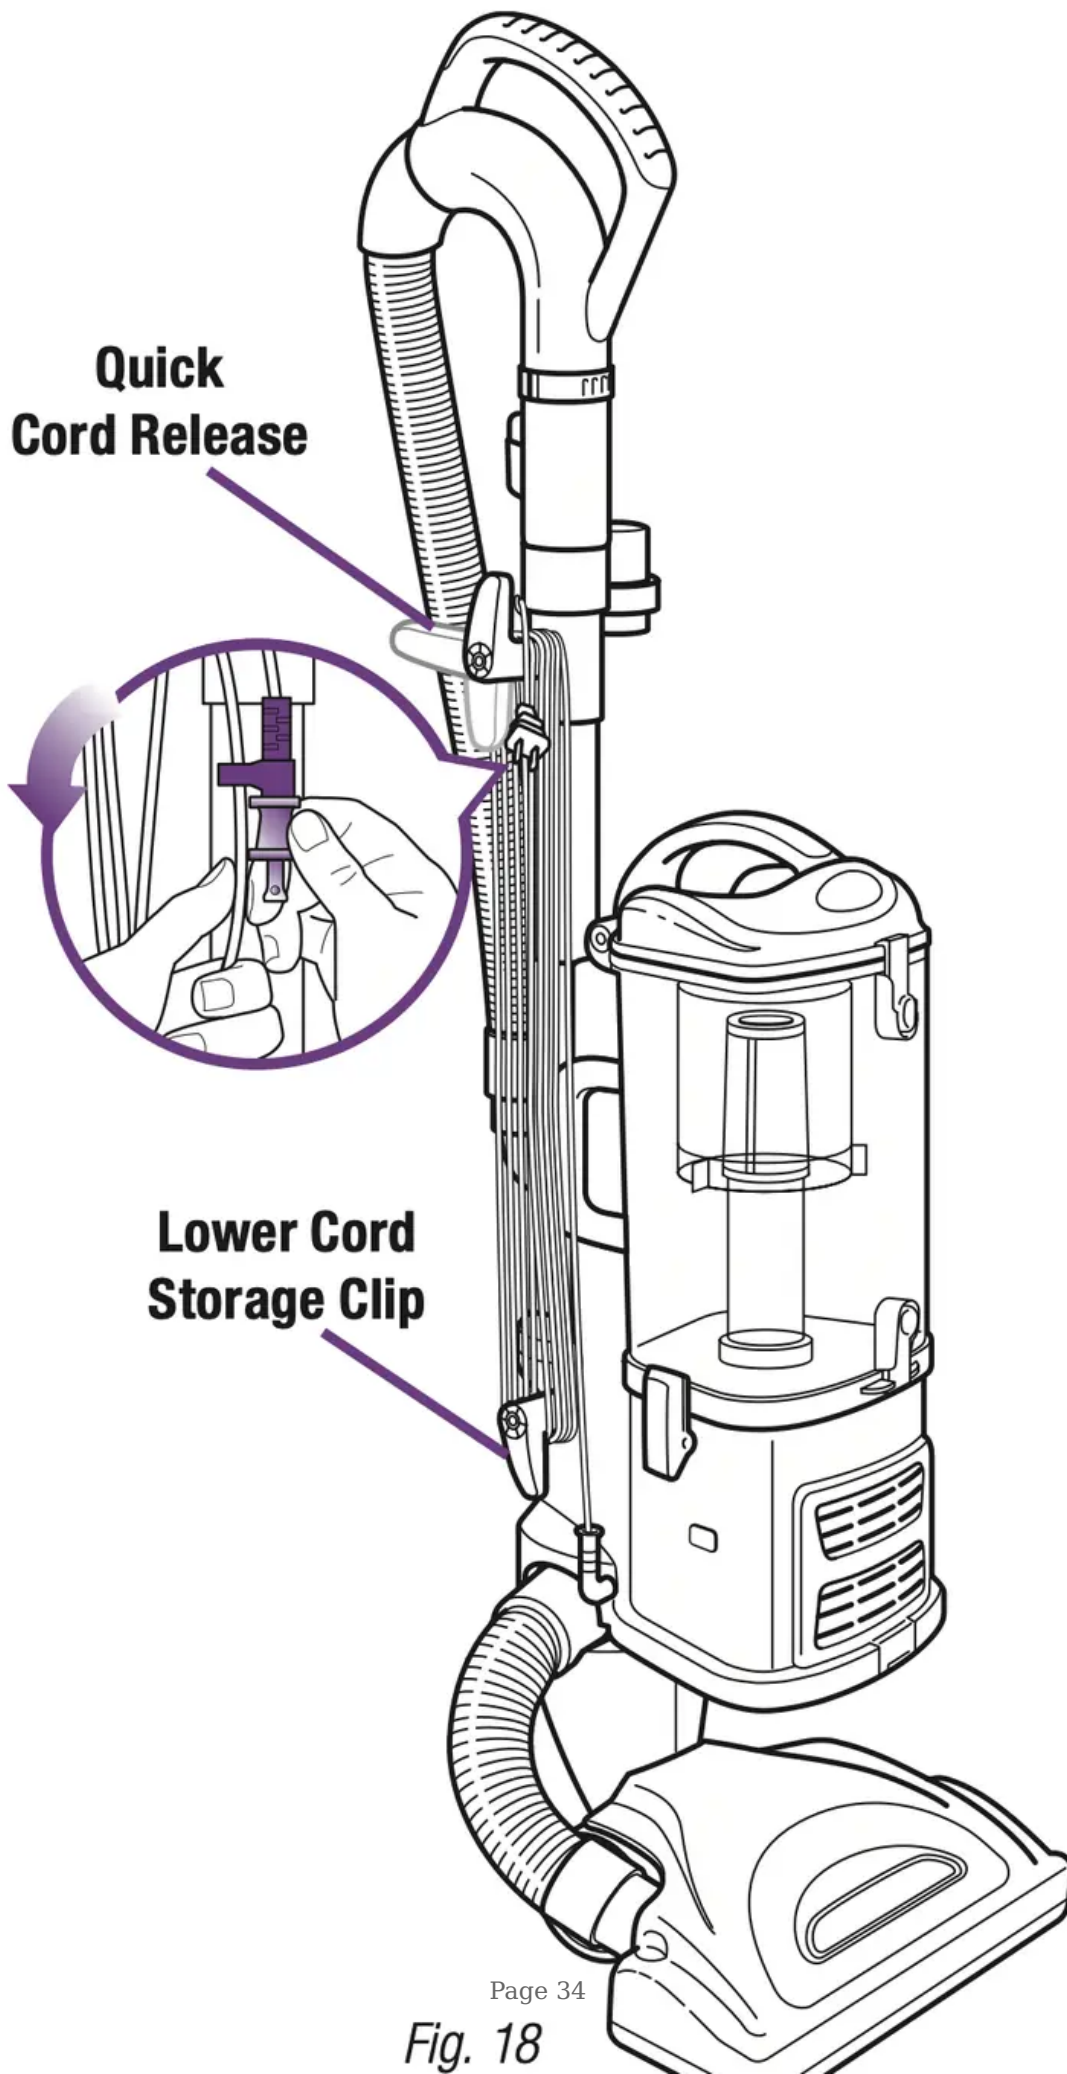

Fig. 18
2. Rotate the upper quick cord release to its upright position and coil the power cord loosely around the two clips. Clip the plug onto the cord to secure. (Fig. 18)